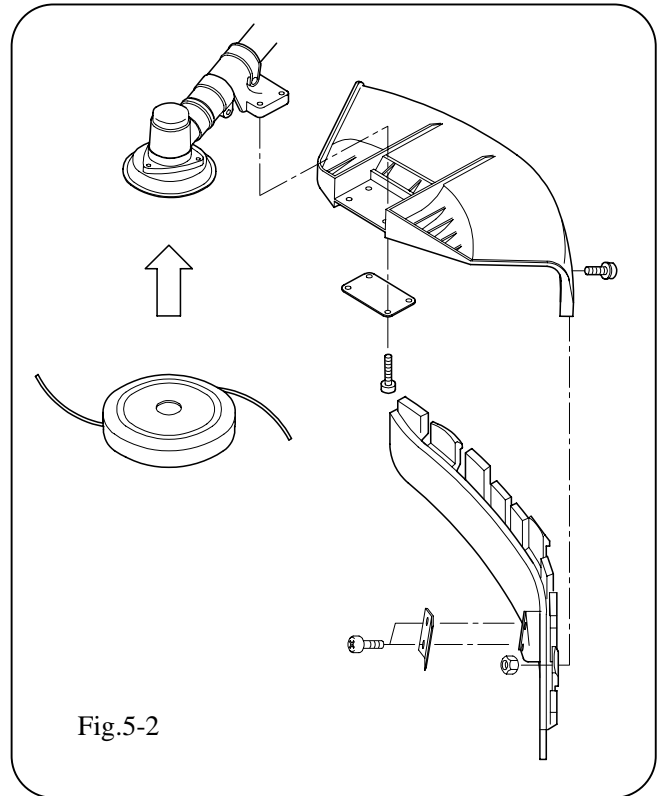

Fig.5-2
2. For a safety reasons, it is imperative that the unit is used with the correct guard when fitted with a nylon head. (Fig. 5-2)